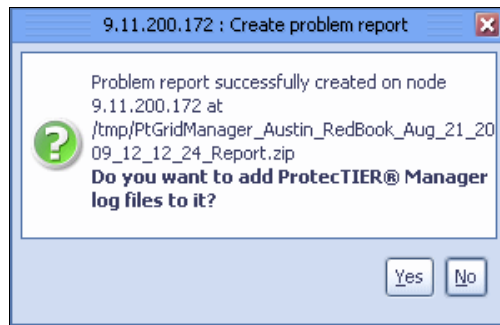

Figure 10-72 Create problem report: Add log file window
6. Click **OK**. The Grids Management downloads the report files from the ProtecTIER system to the ProtecTIER Manager workstation and the Create problem report window opens (Figure 10-72).